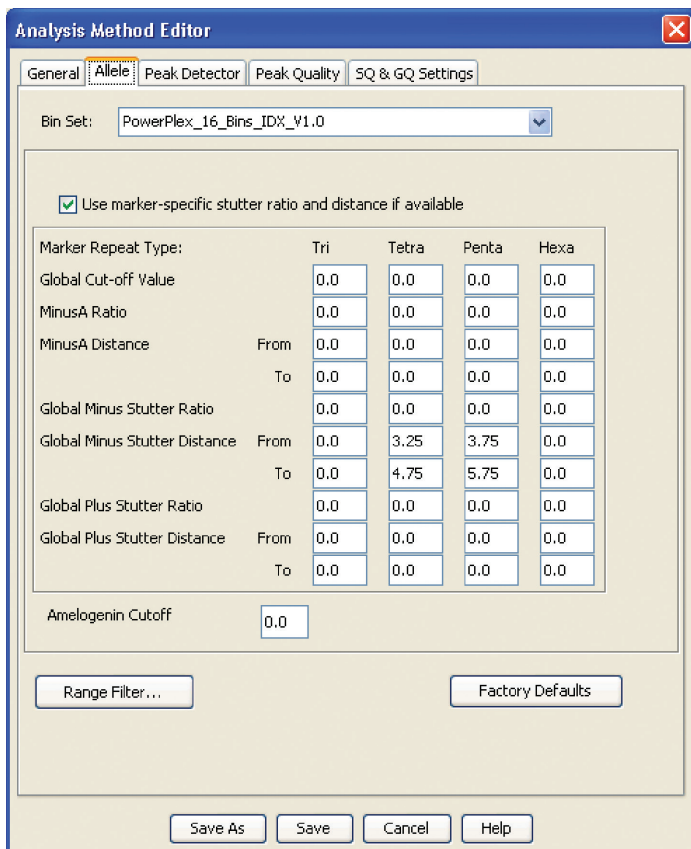

Figure 12. The GeneMapper® ID-X 'Allele' tab.
6. Select the 'Allele' tab (Figure 12).
9. We recommend the values shown in Figure 12 for proper filtering of stutter peaks when using the PowerPlex® 16 System. You may need to optimize these settings. In-house validation should be performed.